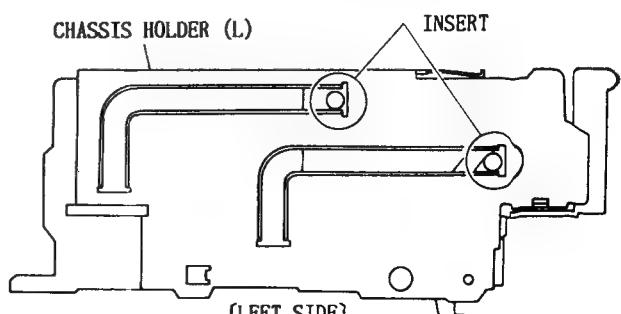

Fig. 5-4
- * Check that two (2) bosses of the cassette holder are inserted into the grooves on the left of the chassis holder. (Fig. 5-4)